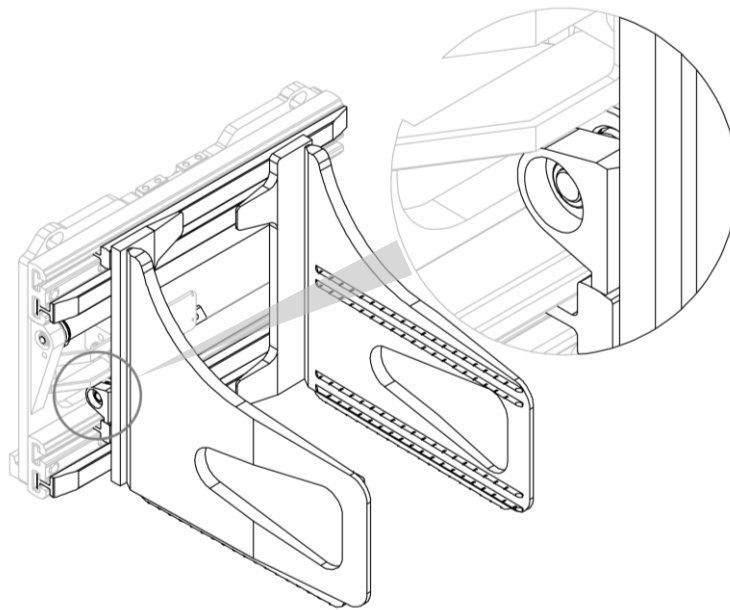
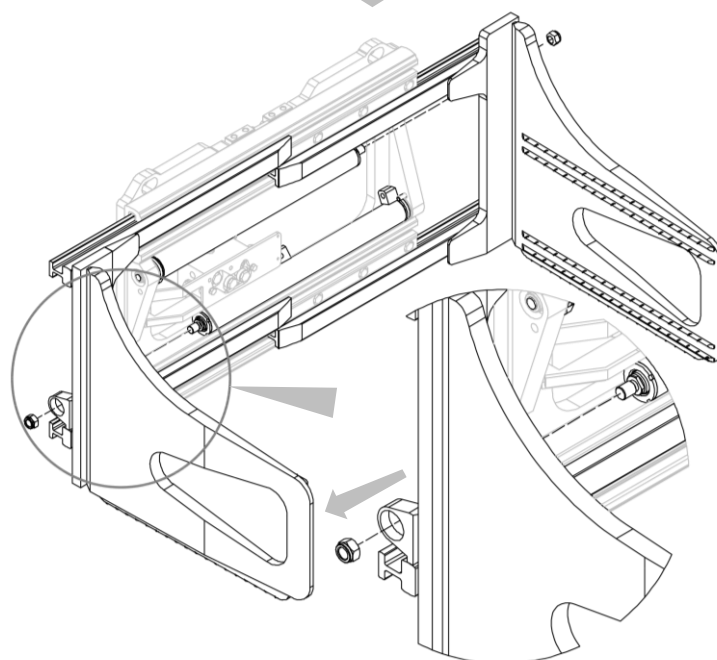

Figure 20
Figure 21
2. Remove the fork assembly with the jaws after unscrewing the nuts securing them to the cylinders (see *Figure 20* and *Figure 21*).